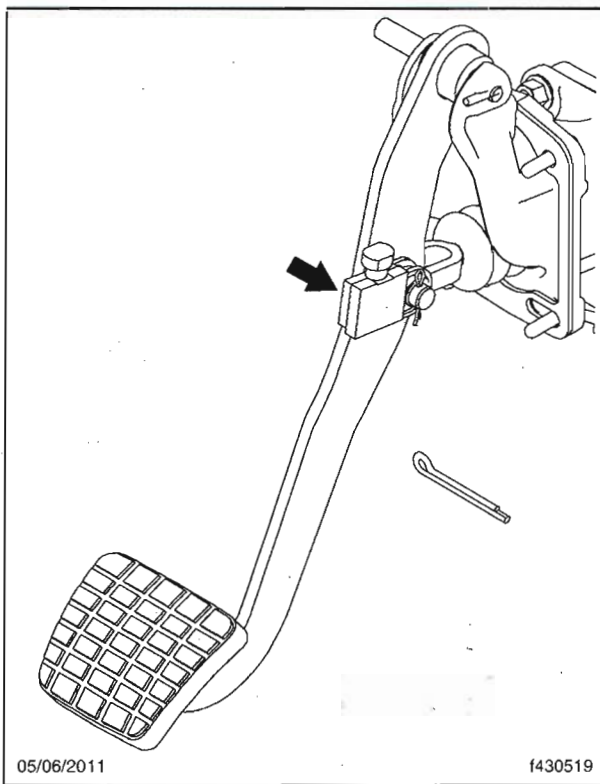
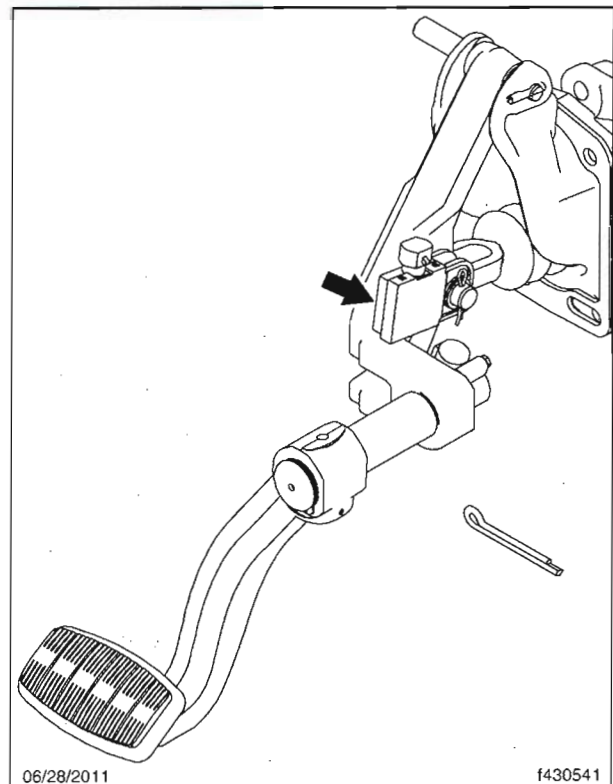

Fig. 1, Brake Switch Location, Fixed Brake Pedal
Fig. 2, Brake Switch Location, Adjustable Brake Pedal
3. Determine whether the brake pedal is a fixed or adjustable version. See **Fig. 1** and **Fig. 2**.
- Locate the brake switch on the brake pedal. See **Fig. 1** for location of the brake light switch on a fixed brake pedal. See **Fig. 2** for the location of the brake light switch on an adjustable brake pedal.